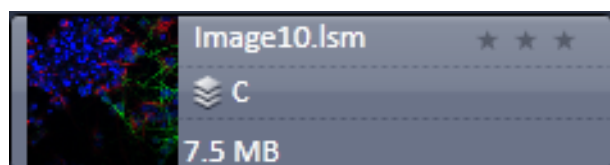

Fig. 705 2 Ch. Z-Stack image
- Example of a 2 Ch. Z-Stack displayed with a small thumbnail in the **Images and Documents** section (Fig. 705).